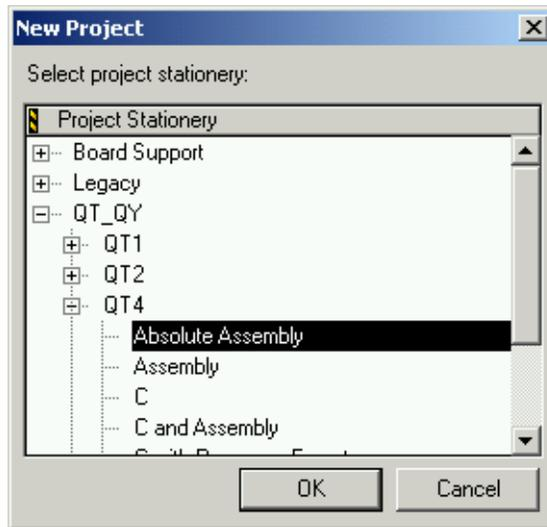

Figure 3. New Project Stationery Window
6. In the New Project Window, click on + by QT_QY to expand the selections. (Figure 3)